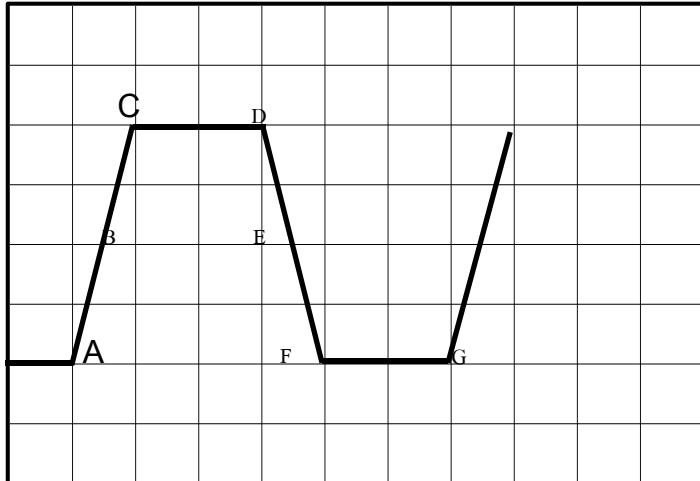

FIGURE 6.1 ✓✓The oscilloscope trace of a pulse waveform
6.4 Figure 6.1 shows the oscilloscope trace of a pulse waveform. The scale settings is as follows: Horizontal axis = 10 ms per division